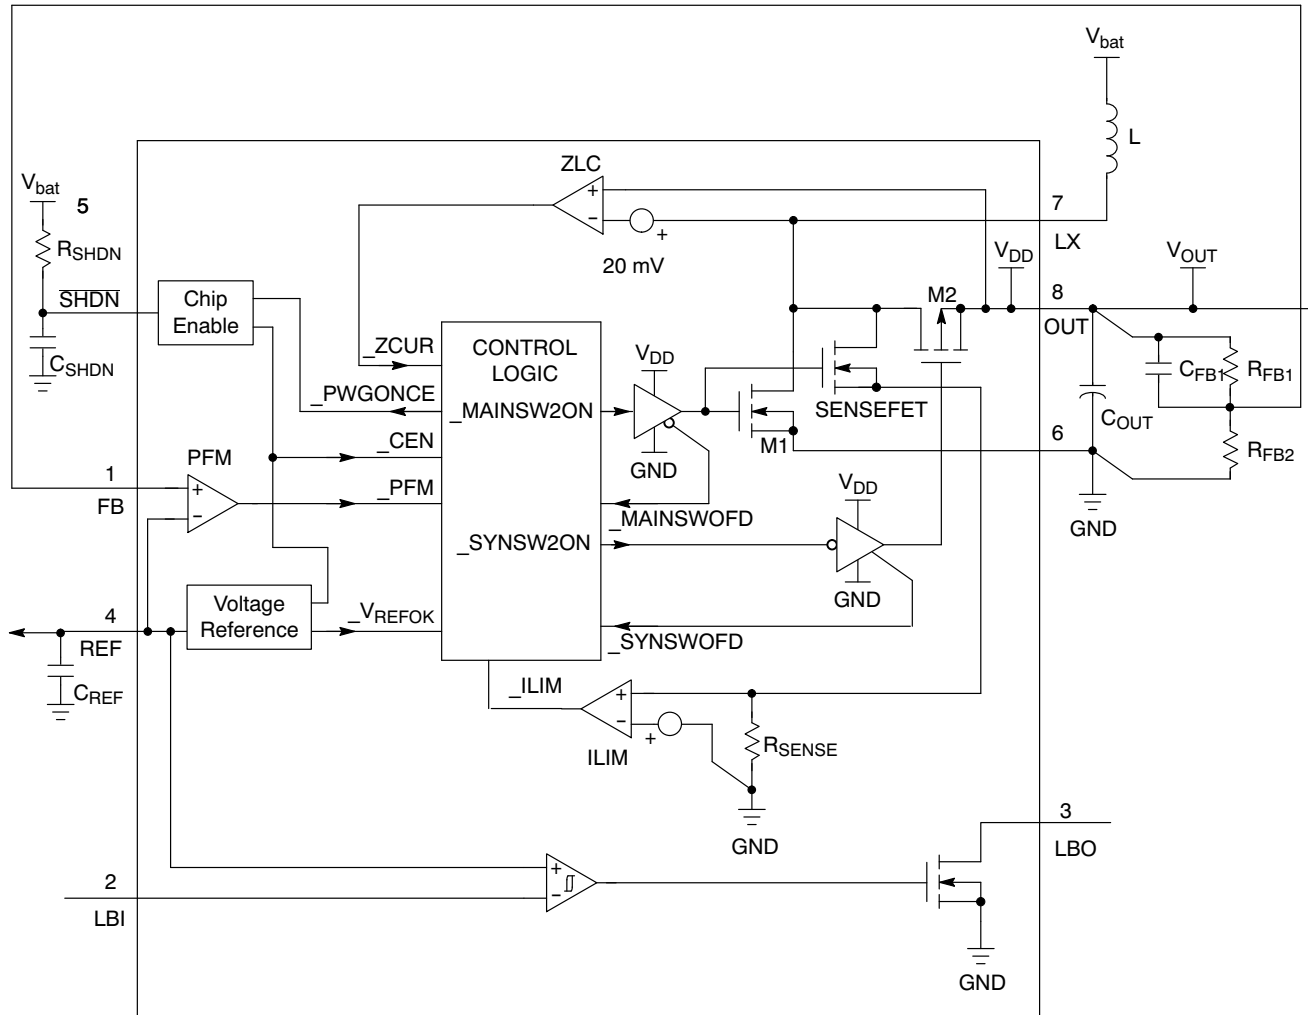

Figure 2. Simplified Functional Diagram
From the simplified Functional Diagram (Figure 2), the output voltage is divided down and fed back to pin 1 (FB). This voltage goes to the non-inverting input of the PFM comparator whereas the comparator's inverting input is connected to REF. A switching cycle is initiated by the falling edge of the comparator, at the moment, the main switch (M1) is turned ON. After the maximum ON-time (typical 1.4 μ S) elapses or the current limit is reached, M1 is turned OFF, and the synchronous switch (M2) is turned ON. The M1 OFF time is not less than the minimum OFF-time (typical 0.31 μ S), this is to ensure energy transfer from the inductor to the output capacitor. If the regulator is operating at continuous conduction mode (CCM), M2 is turned OFF just before M1 is supposed to be ON again. If the regulator is operating at discontinuous conduction mode (DCM), which means the coil current will decrease to zero before the next cycle, M1 is turned OFF as the coil current is almost reaching zero. The comparator (ZLC) with fixed offset is dedicated to sense the voltage drop across M2 as it is conducting, when the voltage drop is below the offset, the ZLC comparator output goes HIGH, and M2 is turned OFF. Negative feedback of closed loop operation regulates voltage at pin 1 (FB) equal to the internal voltage reference (1.190 V).
From Figure 2, SENSEFET is applied to sample the coil current as M1 is ON. With that sample current flowing through a sense resistor, sense-voltage is developed. Threshold detector (ILIM) detects whether the sense-voltage is higher than preset level. If it happens, detector output signifies the CONTROL LOGIC to switch OFF M1, and M1 can only be switched ON as next cycle starts after the minimum OFF-time (typical 0.31 μ S). With properly sizing of SENSEFET and sense resistor, the peak coil current limit is set at 1.0 A typically.
The IC is shutdown when the voltage at pin 5 ($\overline{SHDN}$) is pulled lower than 0.3 V. During shutdown, M1 and M2 are both switched OFF, however, the body diode of M2 allows current flow from battery to the output, the IC internal circuit will consume less than 0.05 μ A current typically. If the pin 5 voltage is pull higher than 0.6 V, for example, by a resistor connected to VIN, the IC is enabled, and the internal circuit will only consume 9.0 μ A current typically from the OUT pin. Refer to Figure 2, the product of R_{SHDN} and C_{SHDN} must be larger than (500 k $\cdot$ 56 nF, i.e. 28 msec). This is to provide reset pulse for startup as battery is plugged in.